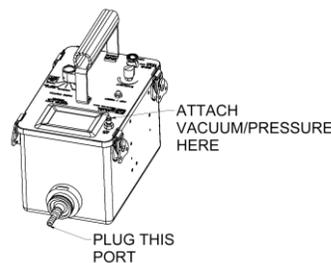

Figure 6-2. Vacuum.
- e. Attach the handheld vacuum pump to the OUT port located under the air filter. See Figure 6-2.
- f. Plug the IN port. See Figure 6-2.
- e. Attach the handheld air pump (electronic pump such as the one in the Model 3101 may be used with caution) to the OUT port located under the air filter. See Figure 6-2.
- (1) Dunk the unit under water while applying pressure in order to locate air bubbles.
- (2) Spray the unit with soapy water/bubbles while applying pressure to identify leaks.
- c. While the front panel is open, attach the vacuum pump to the OUT port located under the air filter. See Figure 6-2.
- d. Plug the IN port. See Figure 6-2.